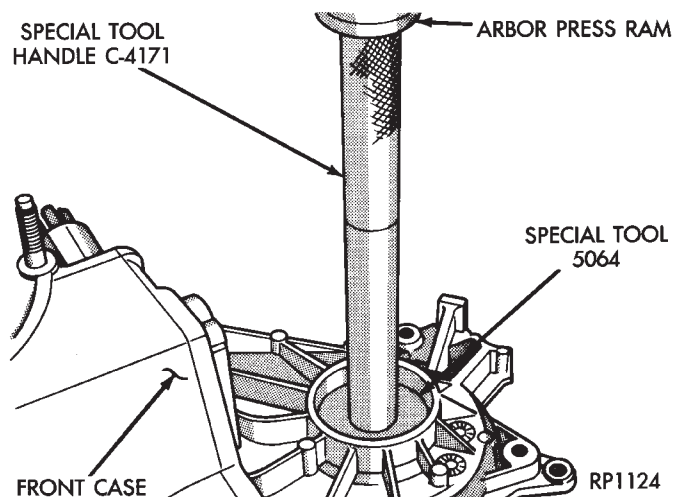

Fig. 31 Installing Front Output Shaft Front Bearing In Case
(4) Tap old front output shaft bearing out of front case with plastic mallet. Install new bearing with Tool Handle C-4171 and Installer Tool 5064 (Fig. 31).